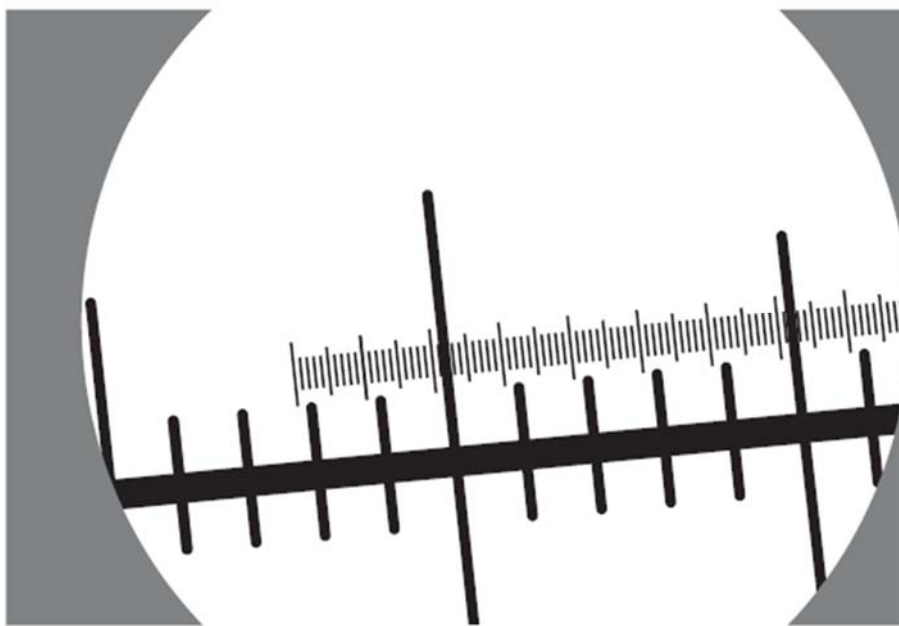
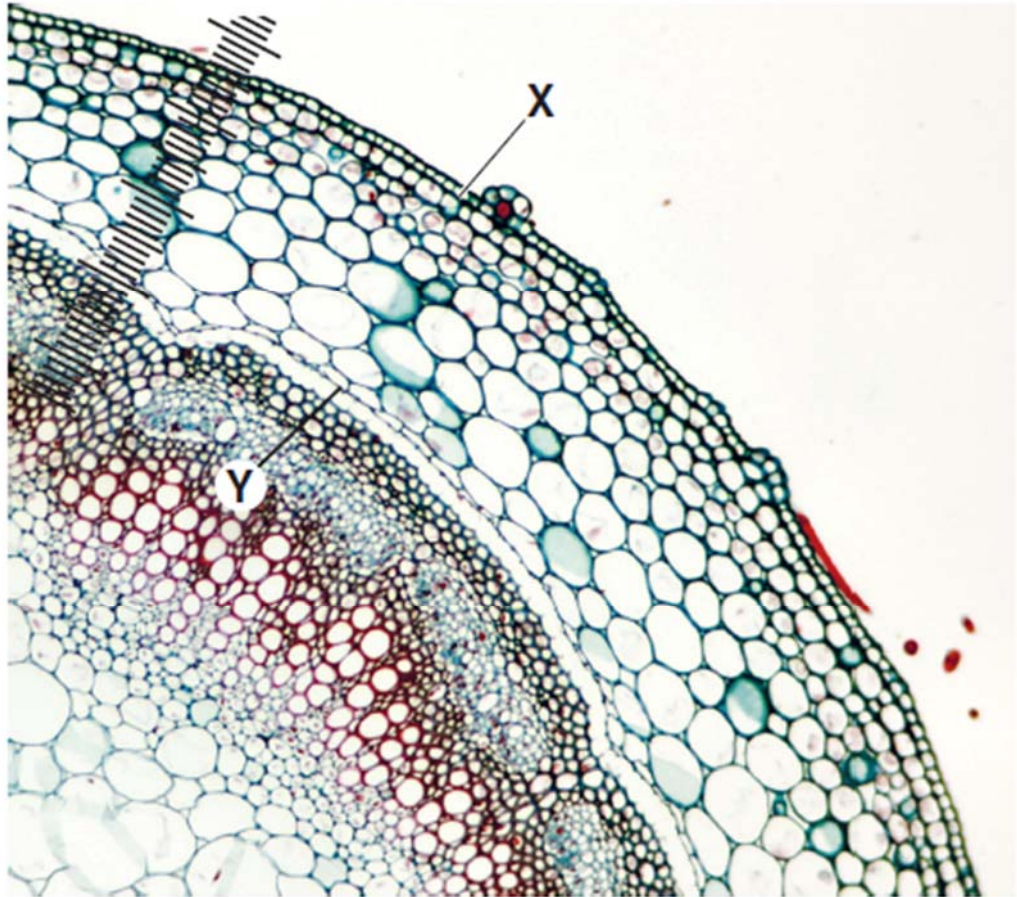

Fig. 3.2
Fig. 3.3
- (b) A student working on a slide similar to S1 wanted to calibrate her eyepiece graticule for use at a particular objective lens. Fig. 3.2 shows a diagram of a stage micrometer scale that she used to calibrate the eyepiece graticule.
- (i) Using Fig. 3.2, calculate the actual length of one eyepiece graticule unit by following the following steps.
Fig. 3.3 is a photomicrograph showing a part of plant organ from another plant taken using the same objective lens from the same microscope in Fig. 3.2.
- (ii) Use the calibration of the eyepiece graticule from (b)(i) and **Fig. 3.3** to calculate the actual length of the plant tissue from X to Y.